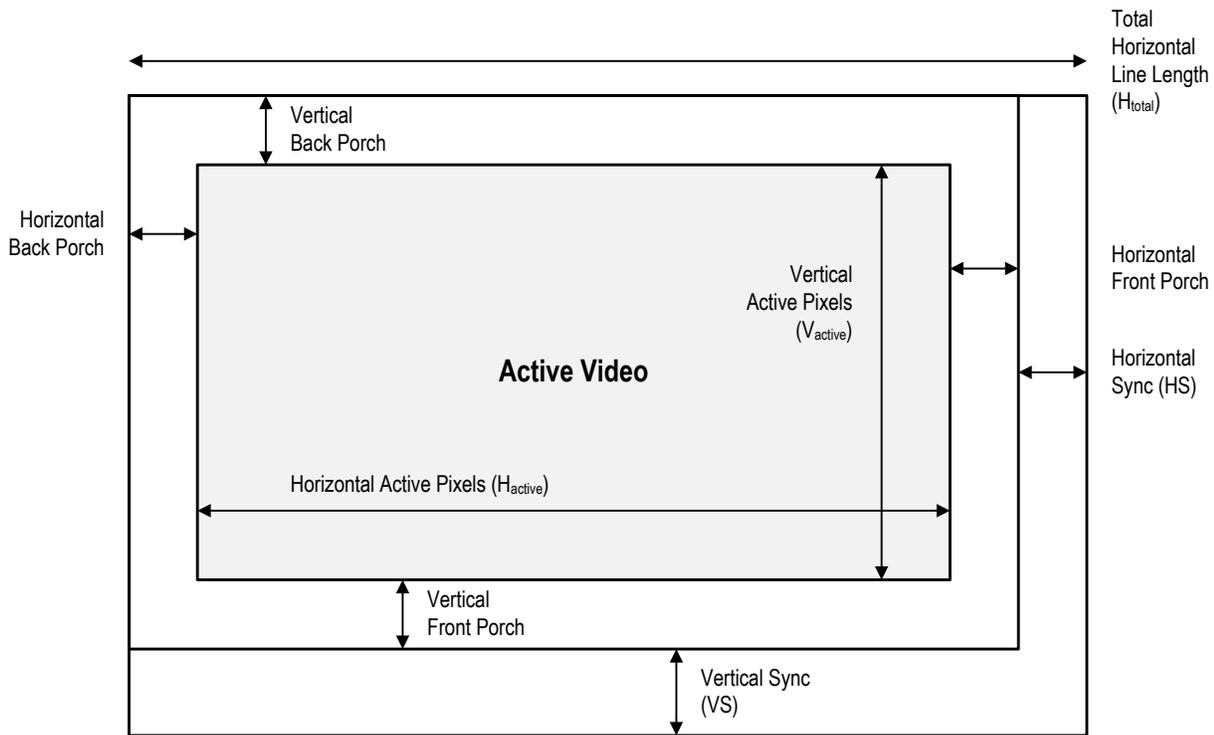

Figure 9. Video Frame Regions
The different regions of a video image are identified in *Figure 9*. Note that there are variations in how these parameters are defined across the industry and that their usage may differ from analog video. The definitions are used throughout this document and are applicable to all GMSL products. When designing systems, be aware that concepts and parameters presented here may not align with other industry definitions.
These concepts are illustrated in the diagram (Figure 9). The active video (i.e., display time) is equivalent to the video screen that actively shows video data. The pixel data advances horizontally one pixel with each successive pixel clock period until the entire horizontal line is formed. The end of the horizontal line is designated by a horizontal sync pulse (HS) and signifies a shift to begin a new horizontal line directly below. This process continues until the entire frame is filled. When the entire frame is filled with horizontal lines, a vertical sync pulse (VS) indicates the end of the frame. The frame then refreshes and the process repeats. Note that cameras and SoCs often express resolution in terms of “active video” (i.e., viewable resolution). This designation ignores blanking. The pixel clock and GMSL bandwidth is dependent on the total resolution, however, and includes blanking.